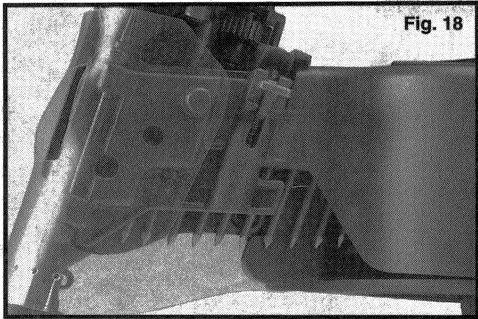

Fig. 18
5. Close magazine cover, then close and latch feeder cover (see Fig. 18).